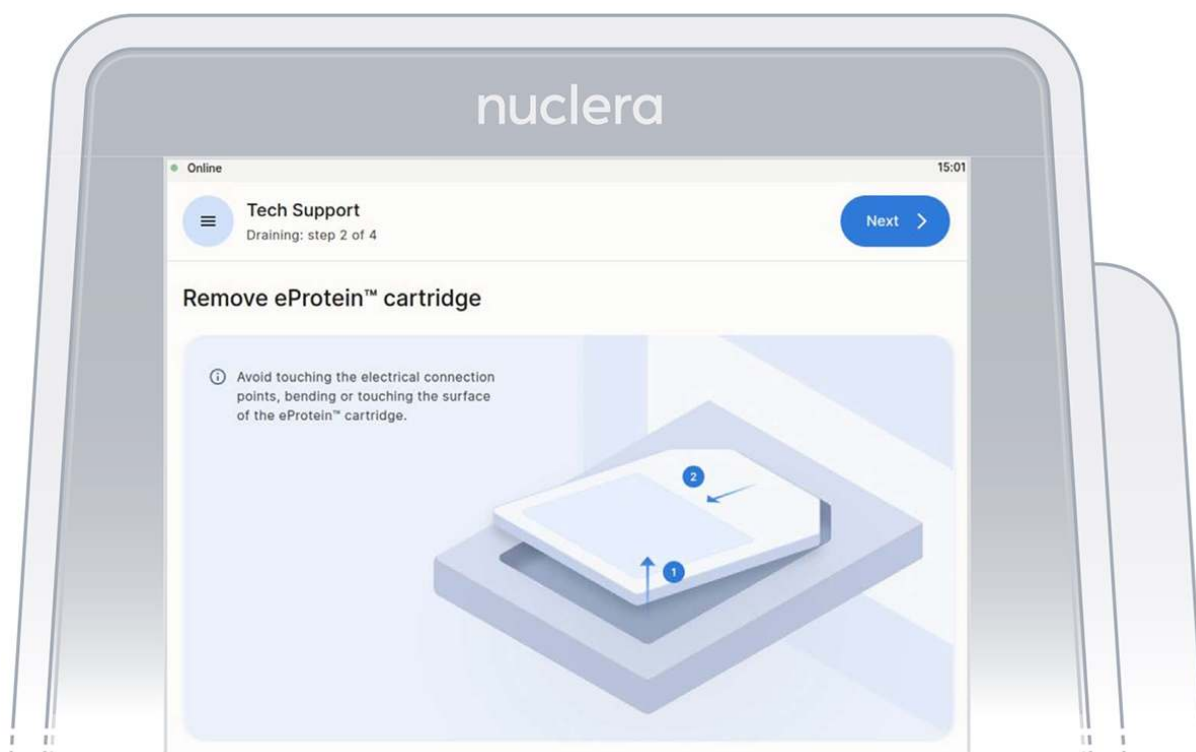

Figure 29: Remove the cartridge from the instrument
1. Remove the cartridge from the instrument drawer by lifting it as shown on the screen and place it in its original packaging. Press the **[Next]** button (Figure 29).